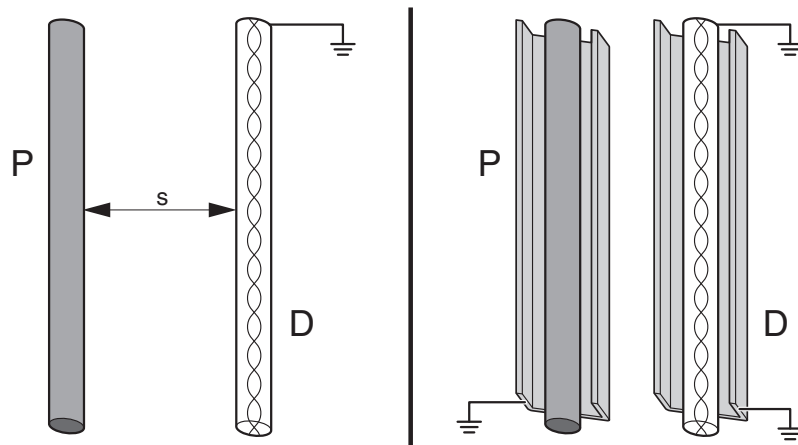

Figure 6-1 Distances between data and power cables
- Do not install the data cables in direct proximity parallel to the power cables (see Figure 6-1 on page 44), instead install them in separate grounded metal cable ducts with a cover, for example.